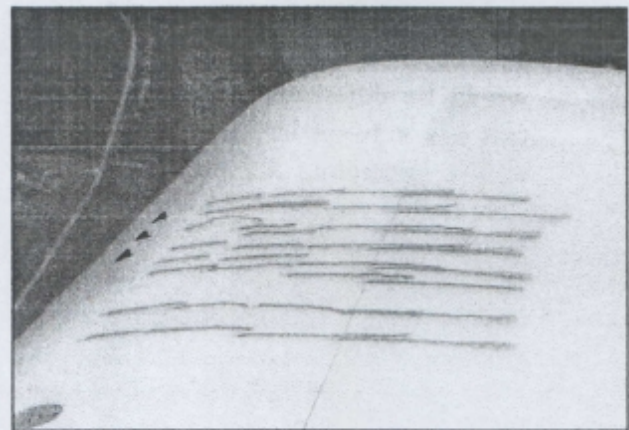

FIG. 8
6.3.1 Fly the aircraft at a safe altitude and slowly enter a stall. Figure 8 is a picture of the tuffs with the aircraft approaching the stall speed. Observe the tuffs during the stall. If the tuffs are behaving the same across the span of the wing, that is the tuffs all scrambled and in disarray that tells you that the vortex generators are too far aft. The next test flight will require that the vortex generators will need to be moved forward. If the tuffs are laying flat against the wing behind the vortex generators but in disarray to the side of the vortex generators, that tells you that the vortex generators are in the optimum position or too far forward. The next test flight the vortex generators should be moved aft. The reason for moving the vortex generators further aft in the next test flight is to determine if the optimum position might be further aft. If the vortex generators are too far forward they will reduce the stall speed, however, they will also be creating more drag than is necessary thus reducing the speed of the aircraft. So the procedure is to run a series of test flights and zero in on the optimum position for the vortex generators.